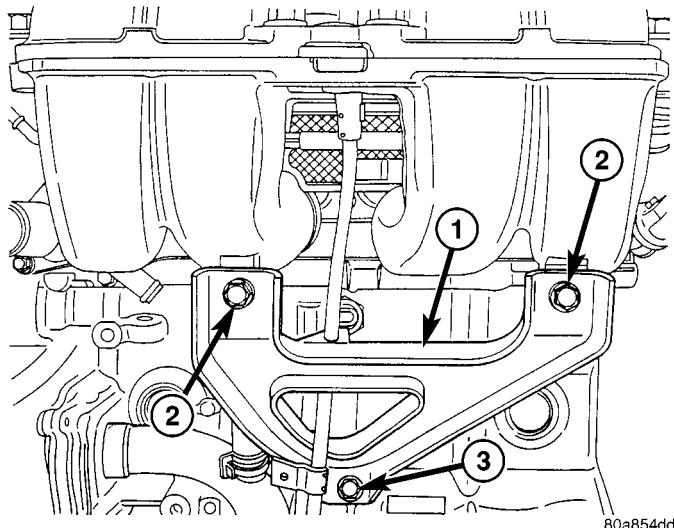

Fig. 111 Lower Intake Manifold Support Bracket
(3) Disconnect fuel line. (Refer to 14 - FUEL SYSTEM/FUEL DELIVERY/QUICK CONNECT FITTING - STANDARD PROCEDURE)
(4) Drain the cooling system. (Refer to 7 - COOLING - STANDARD PROCEDURE)
(5) Remove heater supply and radiator upper hoses at intake manifold.
(6) Disconnect coolant temperature sensor/fuel injector wire harness connector.
(7) Remove lower intake manifold support bracket upper bolts (Fig. 111).
(8) Loosen the lower intake manifold support bracket lower bolt (Fig. 111).
(3) Install lower intake manifold support bracket bolts (Fig. 111) and tighten to:
(4) Position power steering reservoir on manifold and install bolts.
(5) Connect the fuel line. (Refer to 14 - FUEL SYSTEM/FUEL DELIVERY/QUICK CONNECT FITTING - STANDARD PROCEDURE)
(6) Connect coolant temperature sensor/fuel injector wiring harness electrical connector.
(7) Install the radiator upper and heater supply hoses.